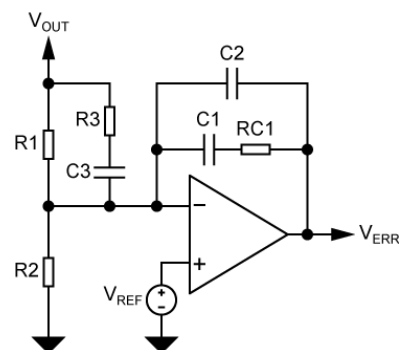

Figure 14. Type II Compensation Network
Due to the output capacitor ESR creating a zero within the range of the desired crossover frequency (F_{CO}), this design only requires that one adds one zero and one associated pole. The phase boost in this case occurs between the zero (FZ) and the pole (FP) of the compensator. Therefore, the zero gain crossover frequency (F_{CO}) will be between these two points. The zero is created by $RC1$ and $C1$. The pole should be set at \leq one half switching frequency to reduce noise sensitivity. The plateau gain (gain between FZ and FP) is set by $RC1$ and $R1$, $AV_{PLATEAU} = RC1/R1$, this should be set to a modest gain of five-to-ten to improve transient response. This compensation network is shown in Figure 14.